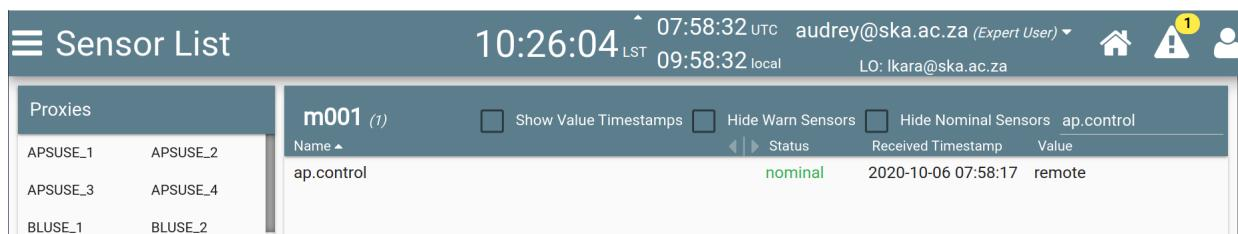

Figure 3.1: CAM GUI sensor list filtered with "Control"
- During the handover, check the control status of the resource *ap.control* sensor in sensor list as shown in **Figure 3.1**.